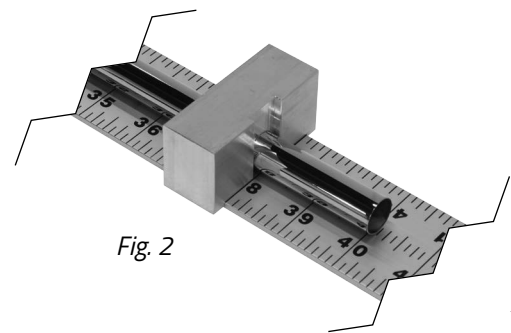

Fig. 2
- 3** Place **Marking Guide** on **Ruler** with leading edge aligned to desired length. Use marking pen to mark cut-length on shaft inside cut-out parallel with leading edge of **Marking Guide** (See Fig. 2). This allows 1/8" for grip cap. Use opposite flat side to mark desired cut-length when not allowing for grip cap. Cut shaft at mark.